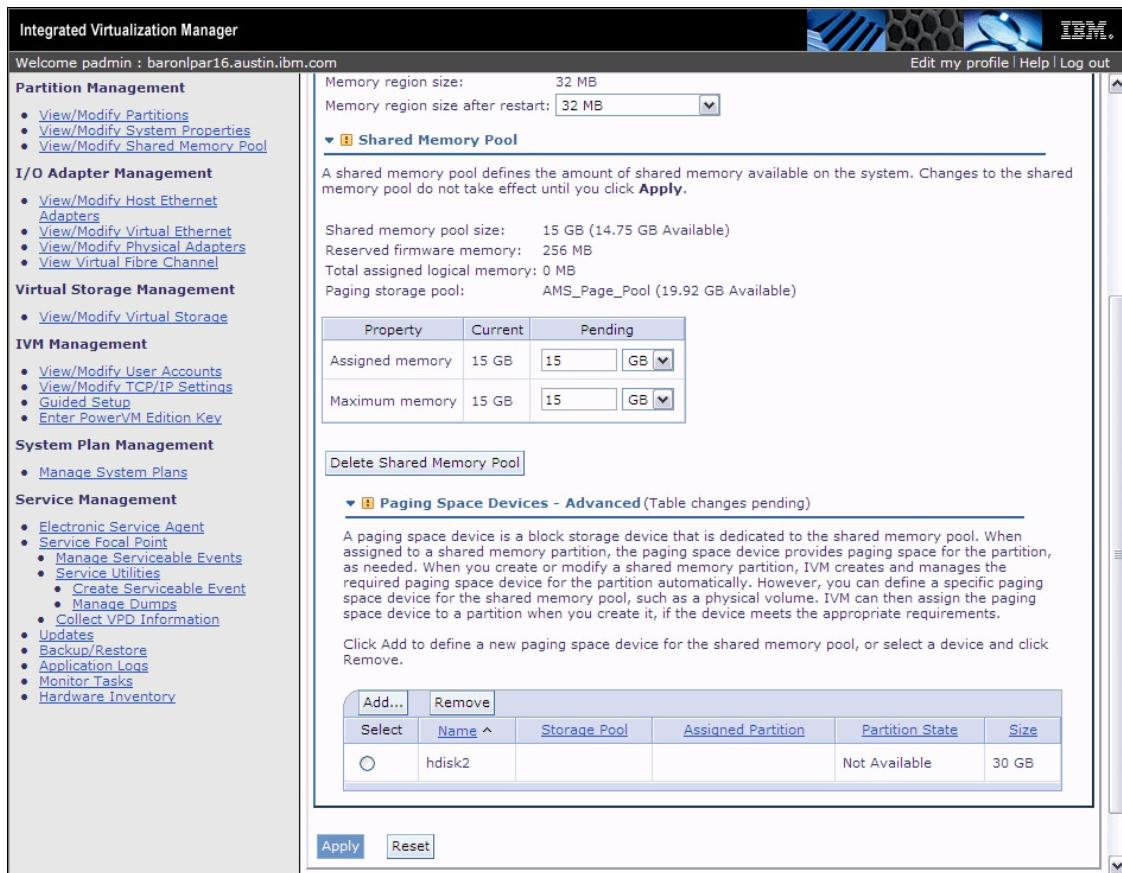

Figure 5-11 Dedicated device defined to paging space devices
4. Figure 5-11 on page 194 shows the selected device now defined as a paging device. The **Apply** button must be clicked to complete the process.